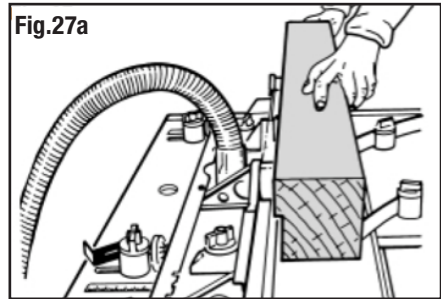

Fig.27a
See figs 27a & b
- Remove the shims and, without re-adjusting the fence, complete the first pass (Fig 27a)